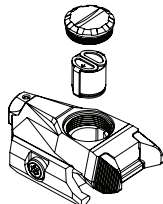

Figure 1
4. Place a CR1/3N battery inside the battery carrier, with the 2 open loops of the carrier at the positive (+) end (Fig 1).
3. Place a fresh CR1/3N battery inside the battery carrier, with the 2 open loops of the carrier at the positive (+) end (Fig 1).
4. Insert the battery and carrier into the LIMA1 housing, positive (+) end facing out (Fig 1). There are 2 slots on the inside walls of the battery compartment, to allow the battery carrier to slip easily into the compartment. The carrier must be aligned with these 2 slots.